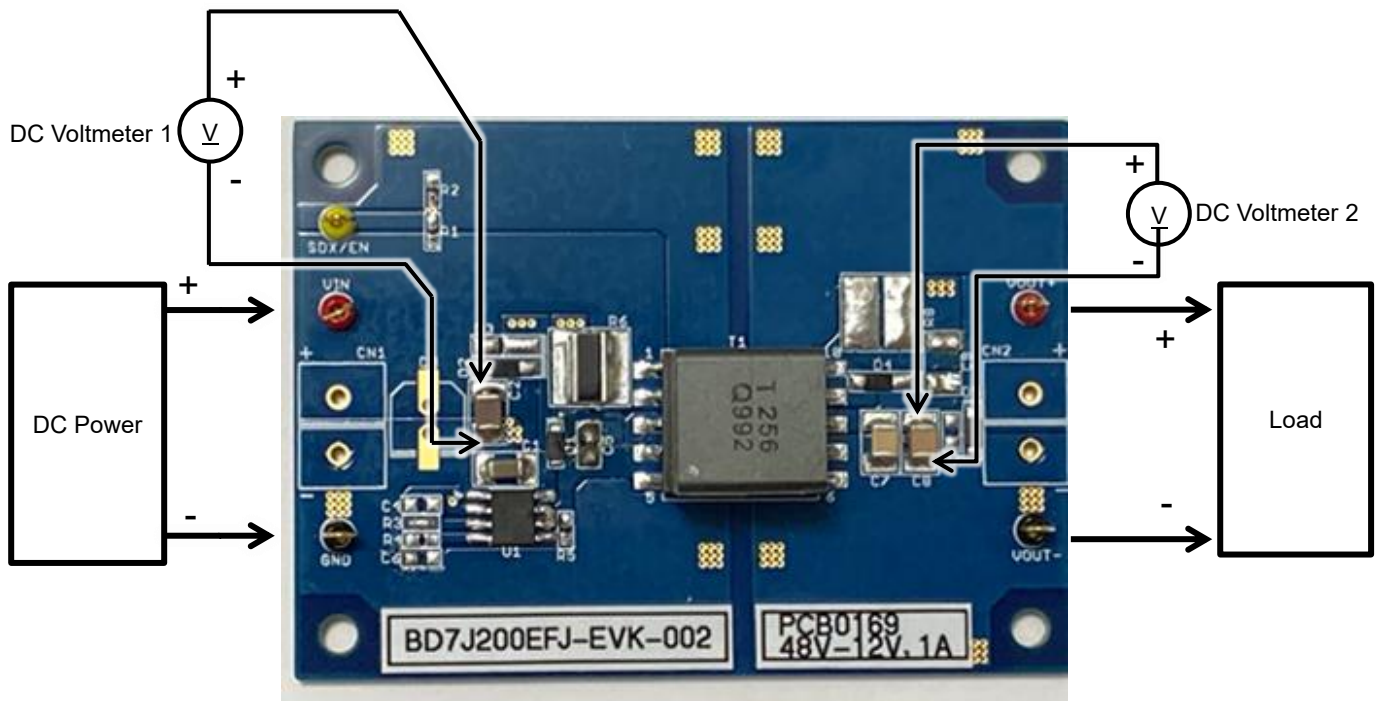

Figure 3. Connection Diagram
2. Connecting the equipments(as shown in Figure 3)